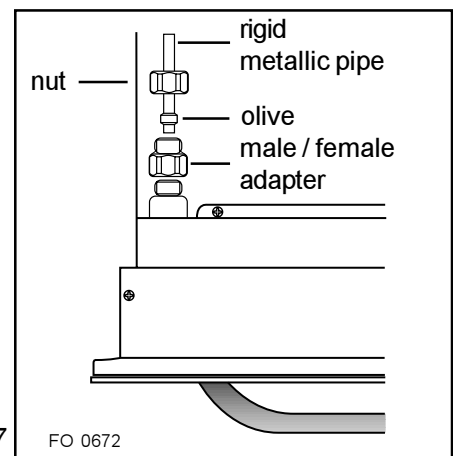

Fig.7
- 2) Fig. 7 — rigid metallic pipe (soft copper - minimum diameter: 8 mm) — insert the copper pipe into the connection ramp after fitting the correct nut and olive onto the copper pipe using a male / female adapter